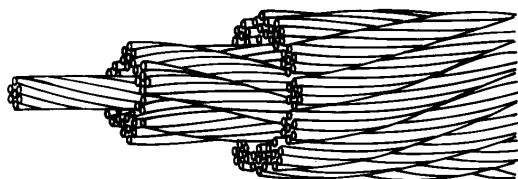

Figure 6. Rope Stranding
(7). Rope Stranding is composed of groups of any of the above strandings combined in concentric configurations (Figure 6).